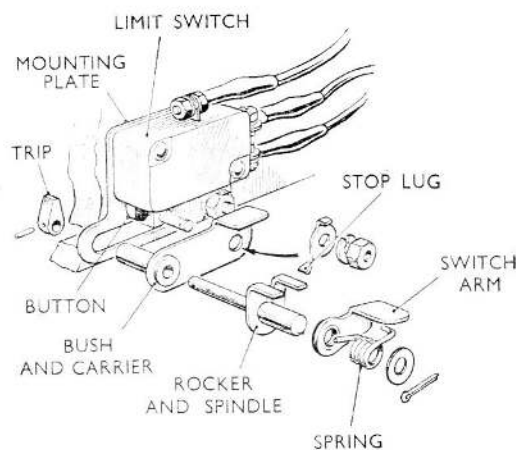

Fig. 4. Limit switch assembly
13. Each switch assembly (*fig. 4*) consists of a limit switch, riveted to a mounting plate, and the switch operating mechanism. The trip arm, which is pinned to the inner end of the rocker spindle, is contacted by the lower